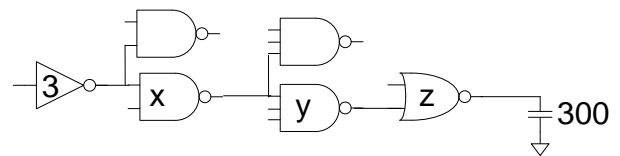

Fig. 12
12. A logic path as shown in Fig. 12. (5%)